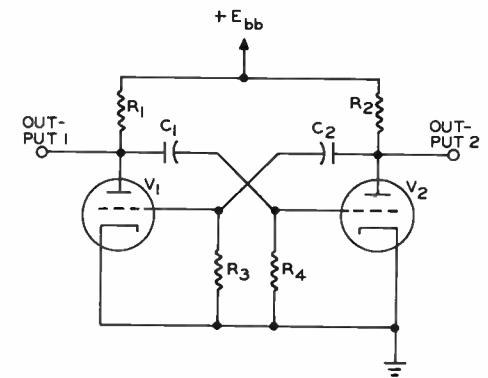

FIGURE 22
10. **The multivibrator circuit of Figure 22**